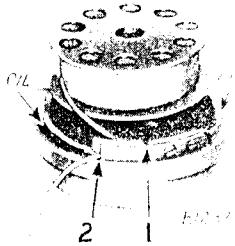
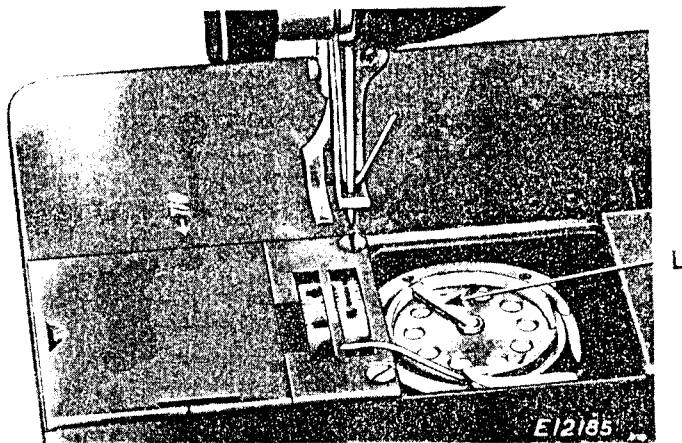

Fig. 9. Direction of Thread on Bobbin
Fig. 10. Bobbin Case Threaded
Apply a few drops of oil four times daily to the two felt pads in the side wall of the bobbin case as illustrated in Fig. 9.
in Fig. 9, and place it on the center stud of the bobbin case, then push down the latch (L, Fig. 10). Draw the thread into the slot (1, Fig. 9) and under the tension spring (2) as shown in Figs. 9 and 10, leaving a loose end of thread about two inches long above the slide. When closing the slide plate, leave just enough space for the thread to pass through.